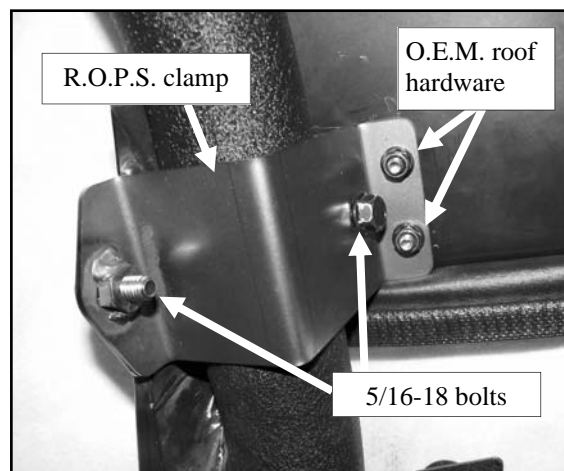

Fig. 6.5 (View of rear right corner)
6.5 See fig. 6.5. Secure the top R.O.P.S. clamp and the roof to the top of the rear leg using the following hardware: